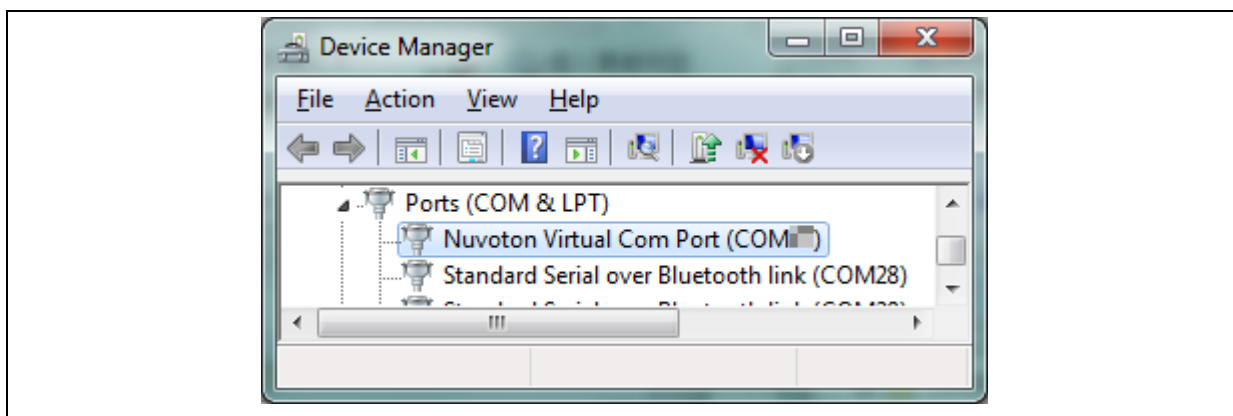

Figure 5-5 Device Manger
3. Find the “Nuvoton Virtual COM Port” on the Device Manager as Figure 5-5.